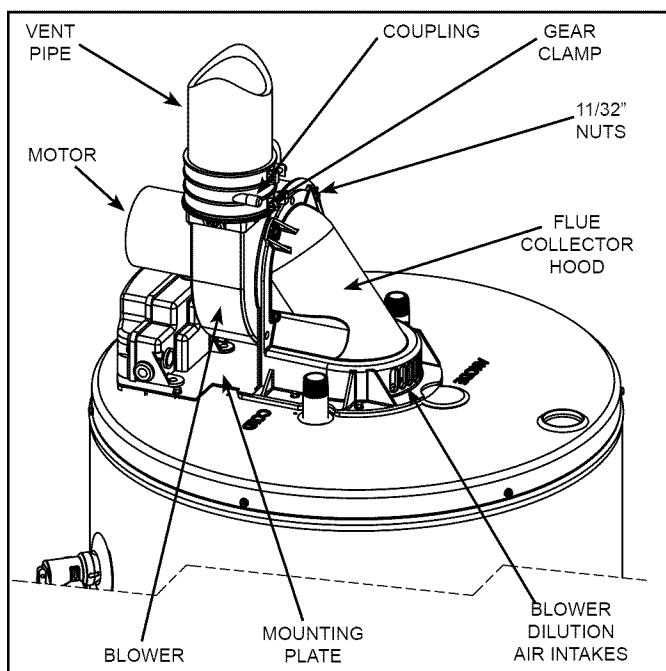

Figure 49.
Inspect the top of the heater and around the ventilation openings of the blower motor and the rear blower dilution air intakes for any lint and dust that may have accumulated. Depending on the location of the heater, significant quantities of lint may accumulate. The lint may obstruct the free flow of air to the motor, and cause the motor and blower to run hotter than normal (see Figure 49).
4. Disconnect the vent piping from the top of the blower. Loosen the lower gear clamp that holds the rubber coupling to the blower (see Figure 49).
5. Remove and retain the (4) 11/32" nuts located on the back of the blower with the nutdriver (see Figure 42 & Figure 49).
10. With all parts cleaned and the blower wheel turning freely, reinstall the blower to the mounting plate aligning the (4) studs and pushing tight against the mounting plate.
11. Reinstall the (4) 11/32" nuts and tighten securely. All (4) nuts must be in place and secure to safely operate the blower.